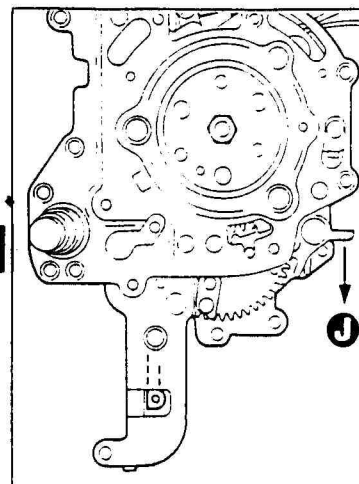

Fig. 9
3. Push the lever ②, and release wind-up. (See Fig. 9.)